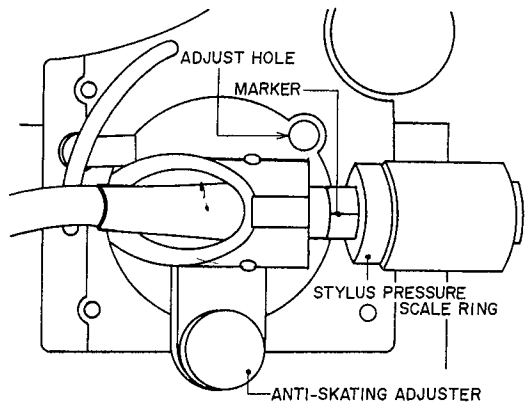
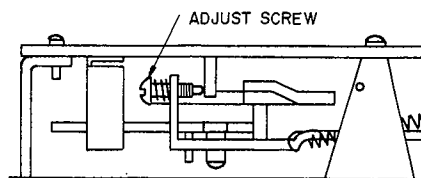

Fig. 13
Fig. 15
- a) Bring the tone arm toward the center of the turntable until the adjust screw is seen through the adjust hole located as in Fig. 13.
- b) For a 30 or 25 cm disk, adjust the adjust screw seen through the adjust hole (see Fig. 13) until the stylus is lifted up at an appropriate point in the lead-out groove. For a 17 cm disk, remove the bottom cabinet, and similarly adjust the adjust screw shown in Fig. 15.